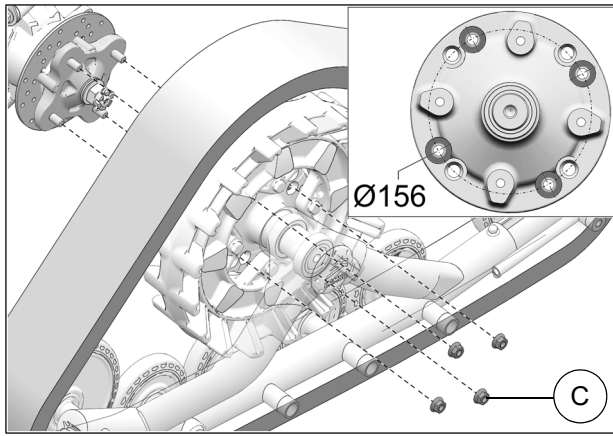

Fig. 18
7. Secure undercarriage to front hub using the provided 3/8-24 lug nuts (C). Use bolt circle Ø156mm. Fig. 18